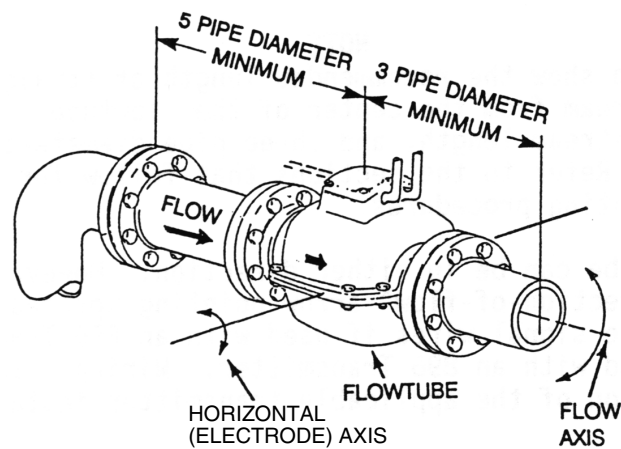

Figure 8. Flanged Body Flowmeter Mounted Horizontally
- ◆ When installed in a horizontal pipe, the flowtube should be oriented so that the electrodes are not located near the top or bottom of the pipe (see Figure 8). Adjacent piping can be elevated so as to maintain a full flowtube.